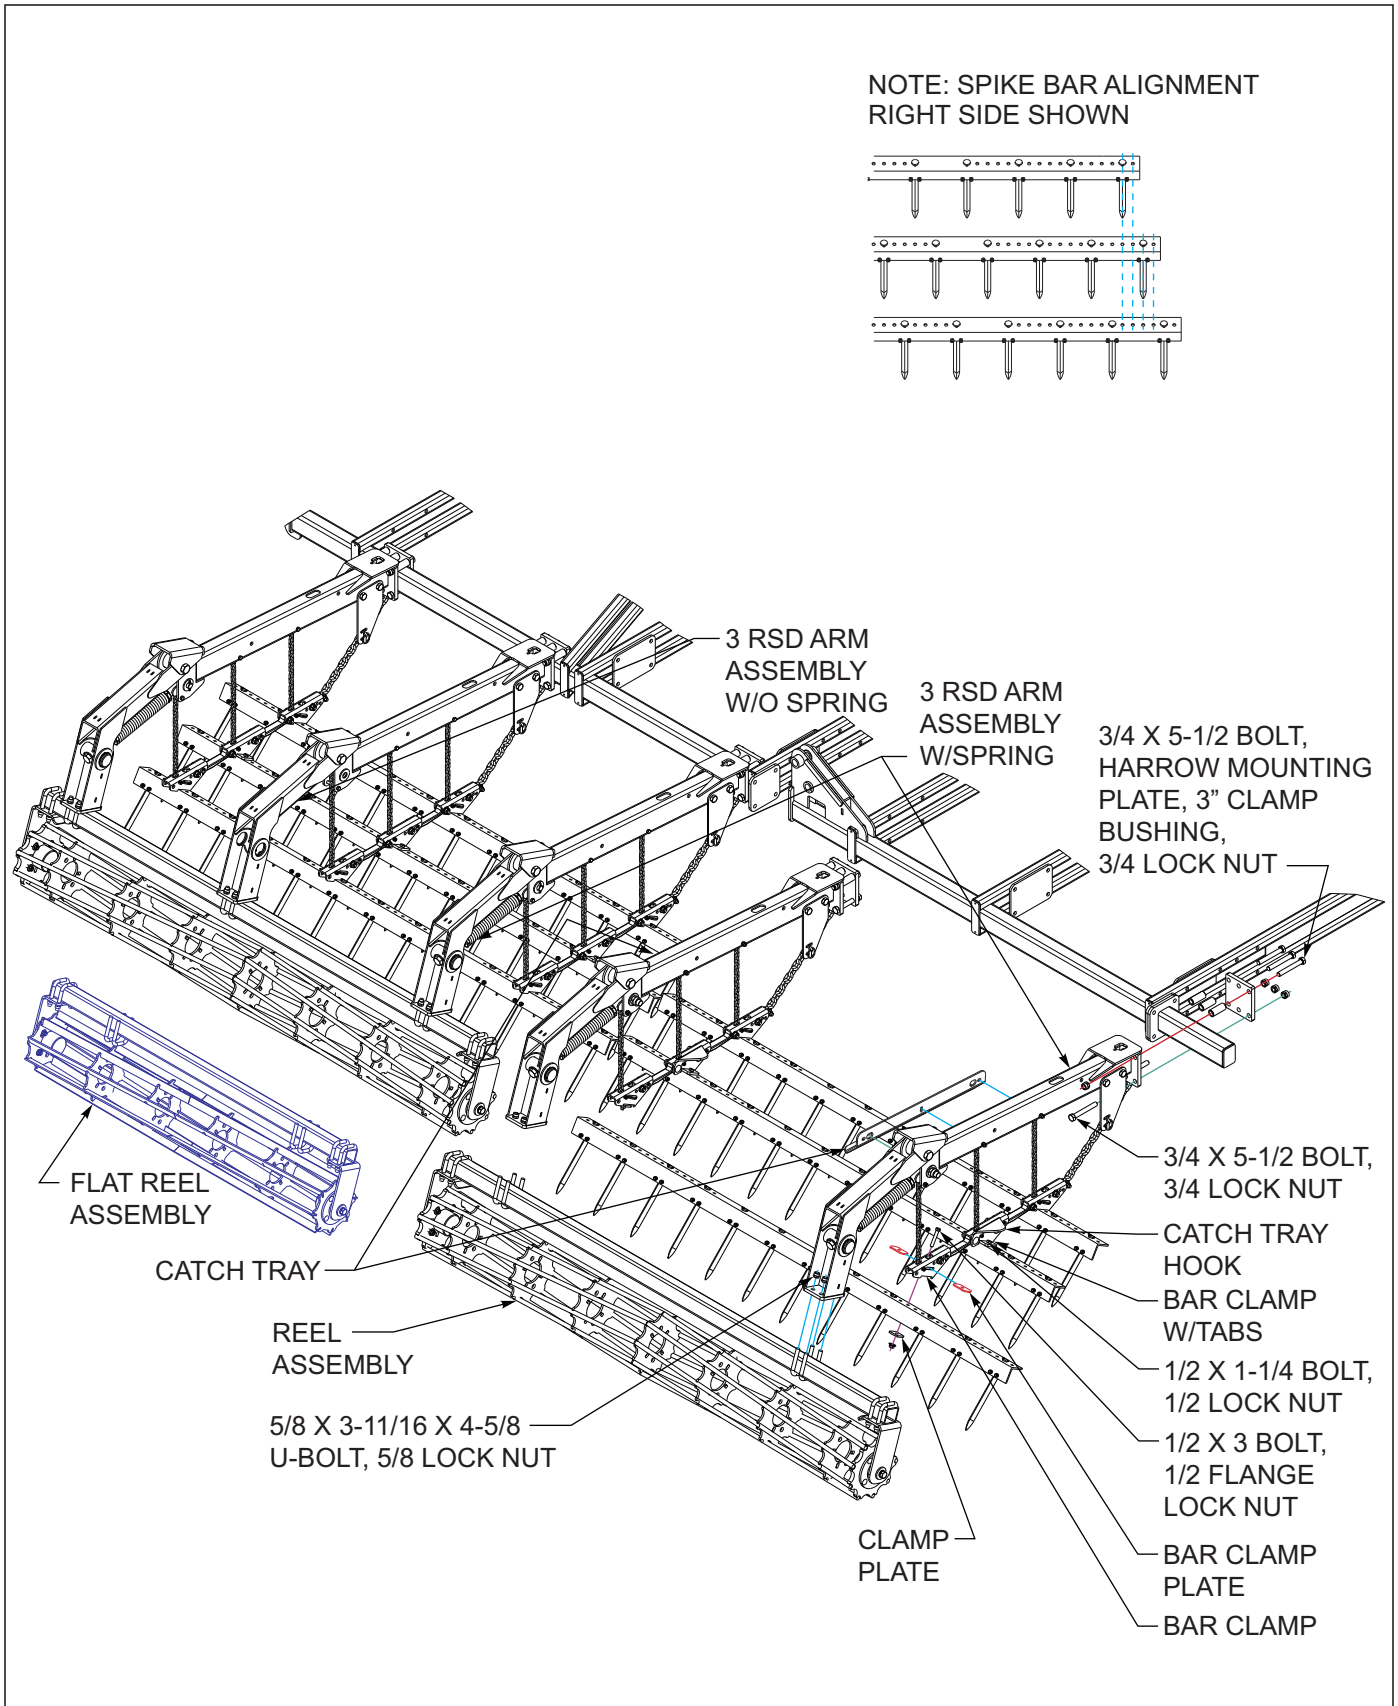

Figure 3-33: 3 Row Spike Harrow and Reel Installation
1. Attach the 3 RSD w/spring and 3 RSD w/o spring arm assemblies to the rear tube of the center and wing frames using harrow mounting plates, 3/4 x 5-1/2 bolts, clamp bushings and 3/4 lock hex nut See Figure 3-33.
3. Refer to Note: spike bar alignment See Figure 3-33 for proper alignment of spike bar assemblies. Be sure they are aligned properly on both right and left side of each section.